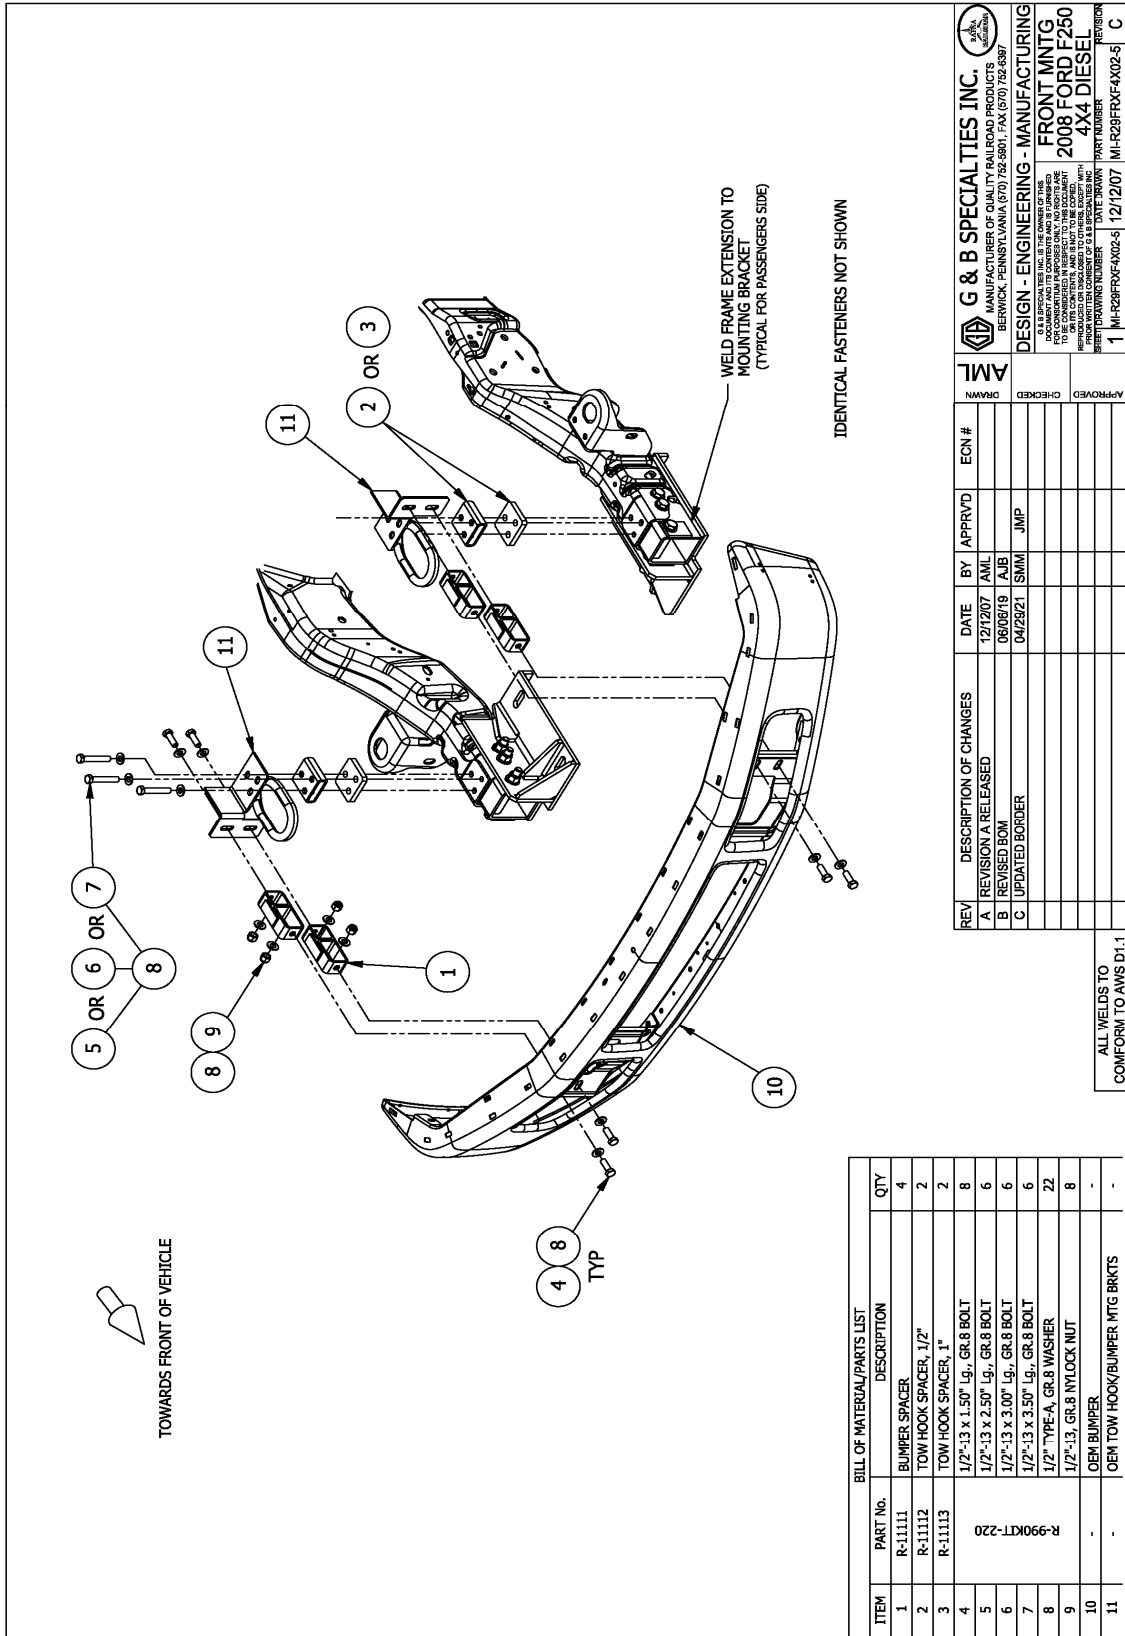

Figure 5
2. Weld the frame extension to the mounting bracket as shown in **Figure 5**.
Front Bumper Bracket Mounting (frame extension *with* nuts) (Figure 5)
Front Bumper Mounting (Figure 5 & 5A)